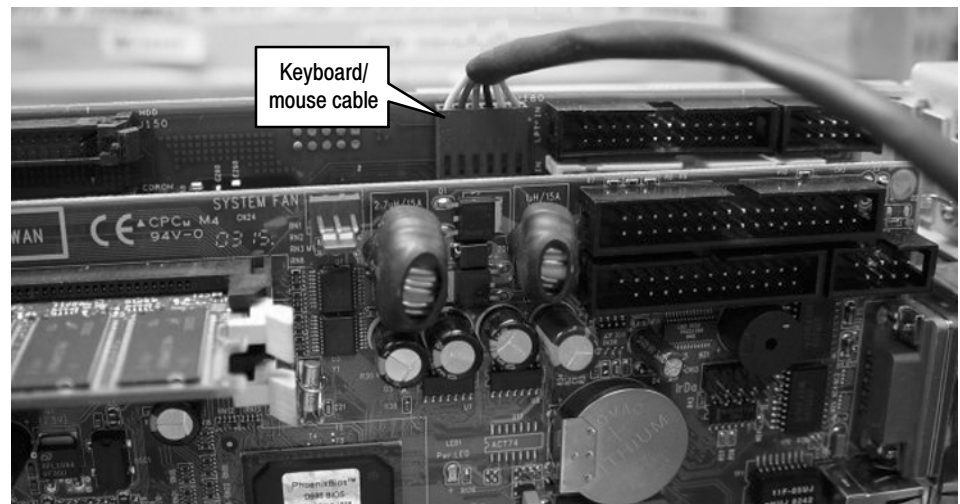

Figure 11: Connecting the Keyboard/Mouse cable
6. Install the 6-pin multi-colored (KB MS) cable from the controller board to the I/O board connector marked “PS2” (see Figure 11).